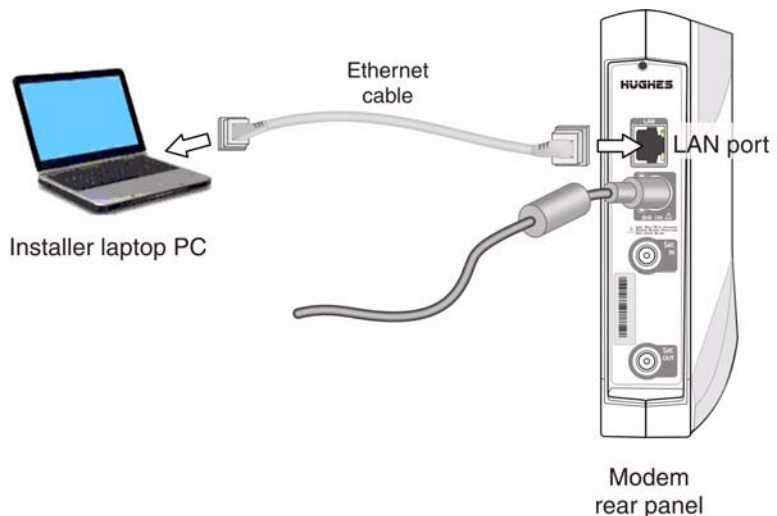

Figure 3: Connecting the installer laptop to the IDU (HN9000 shown)
2. Using an Ethernet cable, connect your laptop to the indoor unit (IDU) LAN port as shown in Figure 3.